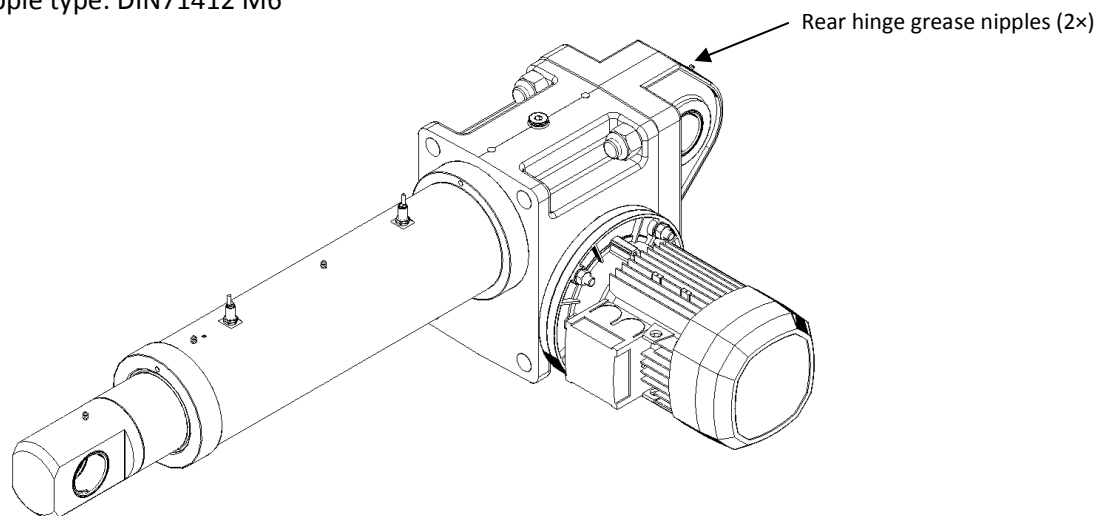

Figure 9.4 – Rear hinge lubrication
- Relube the rear hinge using proper grease nipples (n°2 grease nipples, as shown on Fig. 9.4).
- Relube the hinged head using proper grease nipples, as shown on Fig. 9.4.